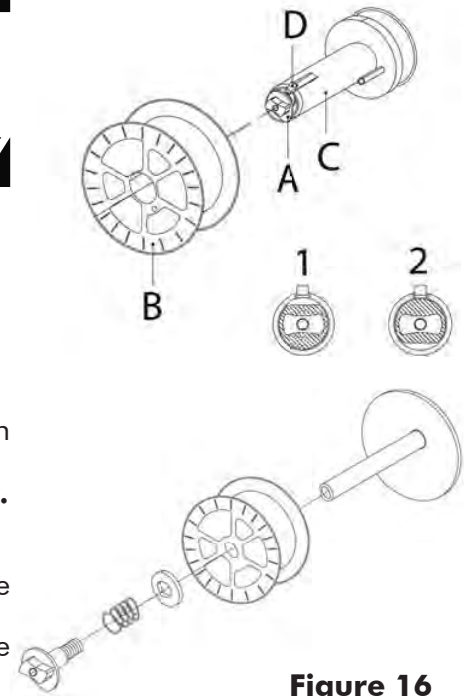

Figure 16
- Loosen the nut (A) of the spool holder (position 1) (brake drum). In the case you are replacing the wire spool, extract it by pushing the snap tongue (D) (Fig 16). Remove the plastic protection from the spool. Place it on the spool holder. Tighten the lock nut (A) turning it to position 2. (Fig. 16).